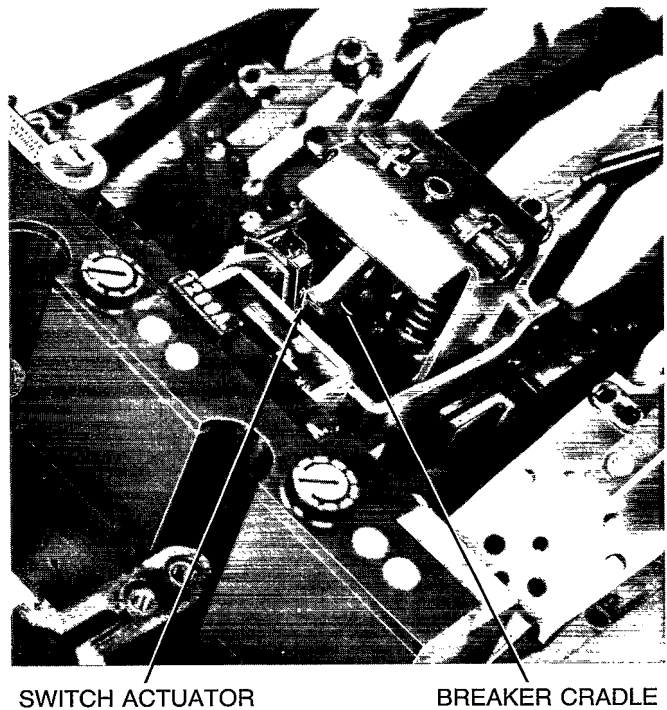

Figure 4
10. Insert trip unit into breaker frame, making sure switch actuator lies along side of breaker cradle, as shown in Figure 4.